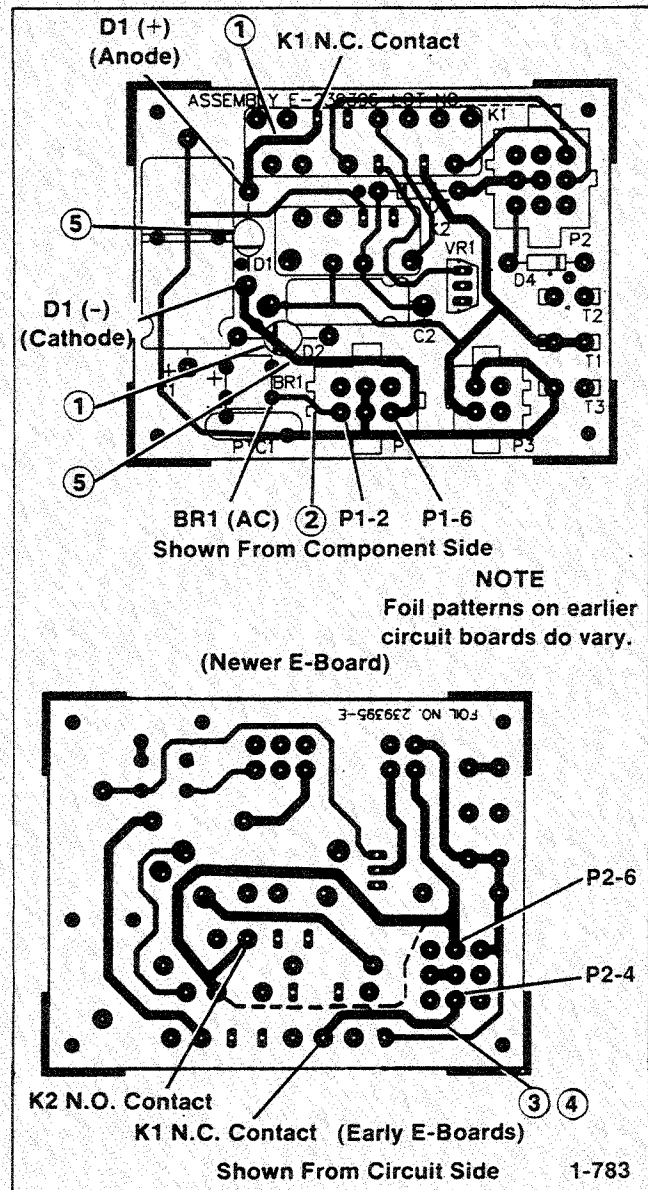

Figure 7-8. Circuit Board Foil Damage Locations
If controller circuit board — 239396 has failed due to foil damage, determine and correct the cause prior to replacing circuit board and attempting start-up. Controller circuit board — 239396 is susceptible to foil damage if subjected to the following conditions. Recent circuit board revisions should provide adequate circuit board protection against most of these possible conditions. See Figure 7-8 for circuit board foil damage locations.
Foil damage between P1-6 and D1 (+) (anode) and/or D1 (-) (cathode) and K1 N.C. contact caused by auxiliary winding 55-66 shorted to ground. Reference 1 on Figure 7-8. Possible problem on A-, B-, and C- circuit boards. E- circuit boards make use of higher current carrying diodes. This problem may also occur if the 8 Amp. fuse in lead 55 is changed to one of a higher rating. Test stator windings with an ohmmeter using "Stator" section. If this test proves inconclusive, it will require testing with a megohmmeter using the following procedure.
Foil damage between BR1 (AC) and P1-2 caused by auxiliary winding B1/B2 shorted to ground. Reference 2 on Figure 7-8. Possible problem on A-, B-, and C- circuit boards. E- circuit boards are equipped with PTC1 to reduce the likelihood of circuit board damage. Test stator windings with an ohmmeter using "Stator" section. If this test proves inconclusive, it will require testing with a megohmmeter using the following procedure.
Foil damage between K1 N.C. contact and P2-4 caused by battery positive (+) lead shorting to ground through P2-4 when start switch is activated. Reference 3 on Figure 7-8. This can occur due to improper starter solenoid connections, battery positive (+) lead contacting starter solenoid coil negative (-) terminal (P2-4) because of terminal bending, or by a short during "jumpstarting."
Foil damage between K1 N.C. contact and P2-4 caused by starter solenoid component failing. Reference 4 on Figure 7-8.
D1 and/or D2 diodes damaged caused by shorted rotor or brush retaining tool not removed after disassembly. Reference 5 on Figure 7-8. Possible problem on A-, B-, and C- circuit boards. E- circuit boards have higher current carrying diodes. To test these components, see "Rotor" and/or "Brushes" sections.